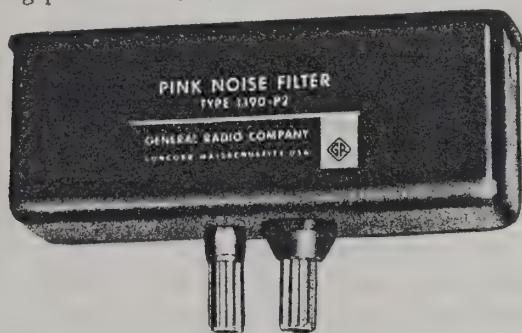

Figure 8. Type 1390-P2 Pink-Noise Filter.
2.7.1 DESCRIPTION. The Type 1390-P2 Pink-Noise Filter (Figure 8) converts the electrical noise output